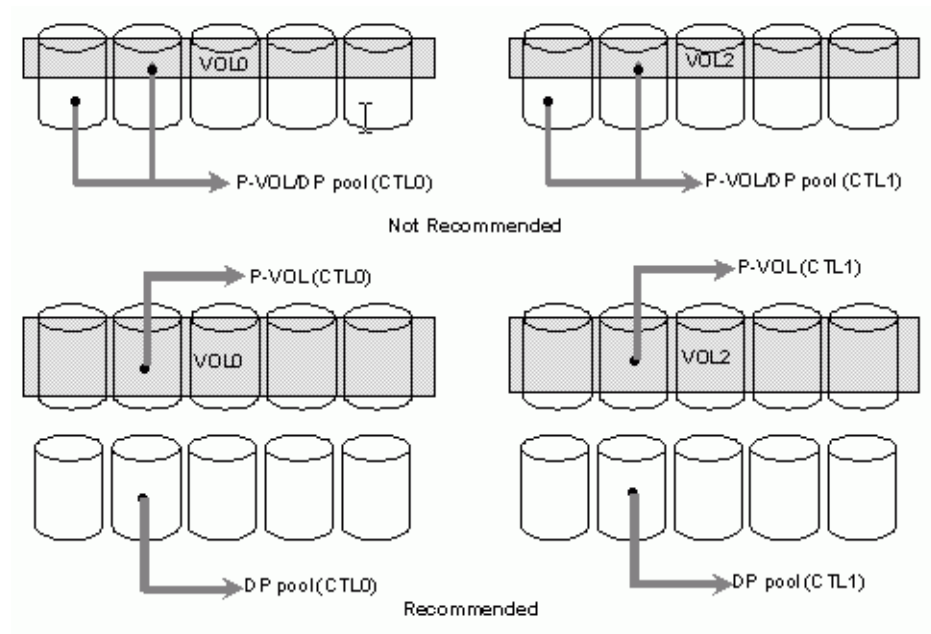

Figure 9-6: Locating P-VOL and DP pool in separate ECC Groups
- Locate a P-VOL and associated data pool in different ECC groups within a RAID group, as shown in Figure 9-6. When they are in the same ECC group, performance decreases and the chance of failure increase.